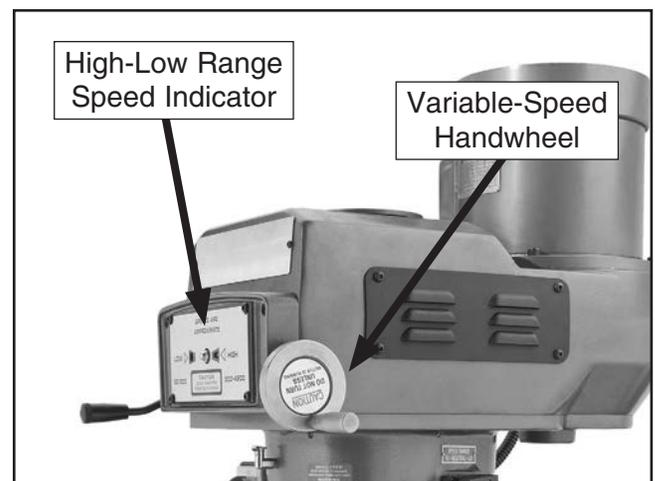

Figure 33. Model G0748 variable-speed controls.
4. Slowly rotate the speed handwheel shown in **Figure 33** until the desired speed is displayed in the speed indicator window for the speed range selected.